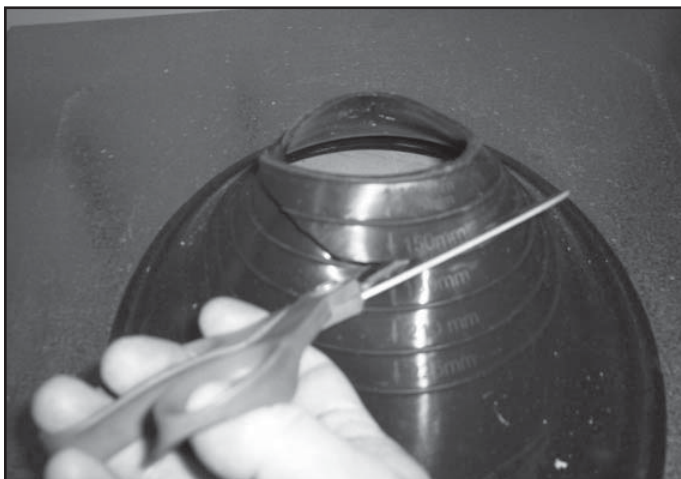

Figure 10.19 Trim Rubber Boot
- Trim the rubber boot (using scissors or a utility knife), cutting along the marked measurement lines. See Figure 10.19. Use the 150 mm line for SLP, 210 mm for DVP.